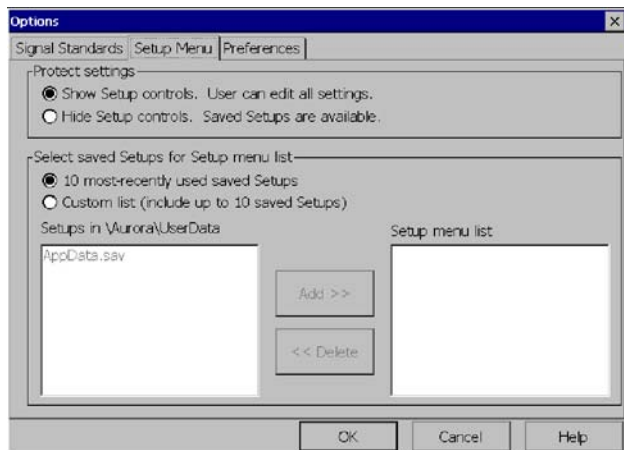

Figure 3-75: Specifying the List of Setups
3. Select the **Setup Menu** tab. See Figure 3-75.